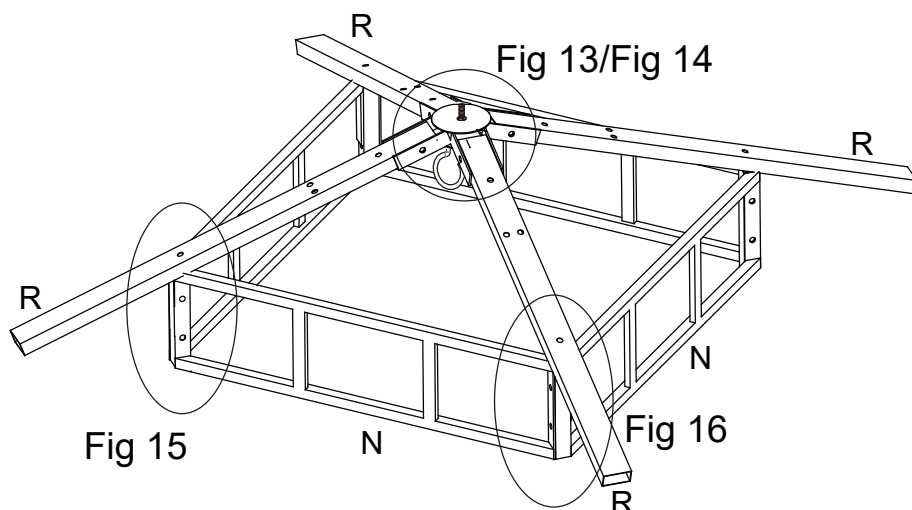

Fig 13
3-a . Attach the Small Top Lintel (N) to the Small Top Lintel (N) by Bolt\Flat Washer \Nut M6*35 (GD), as per Fig 13.